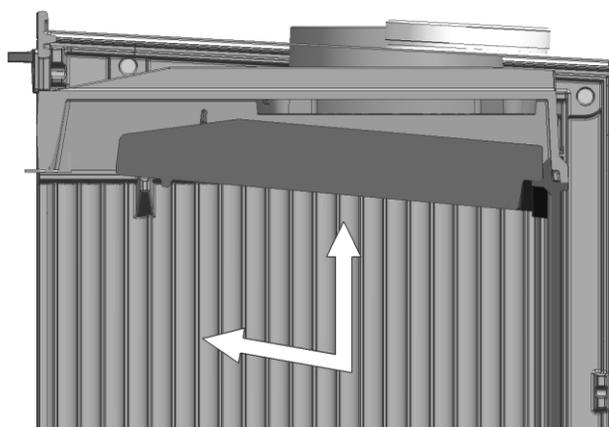

Fig. 1
1. A –Slide the deflection plate forward and upward until the side tabs on the deflector are free (Fig.1)
- a) Keep any flammable material (furniture, curtains, clothes...) away from fireplace, at a safety distance of at least 0.90 m. (Fig. 1)